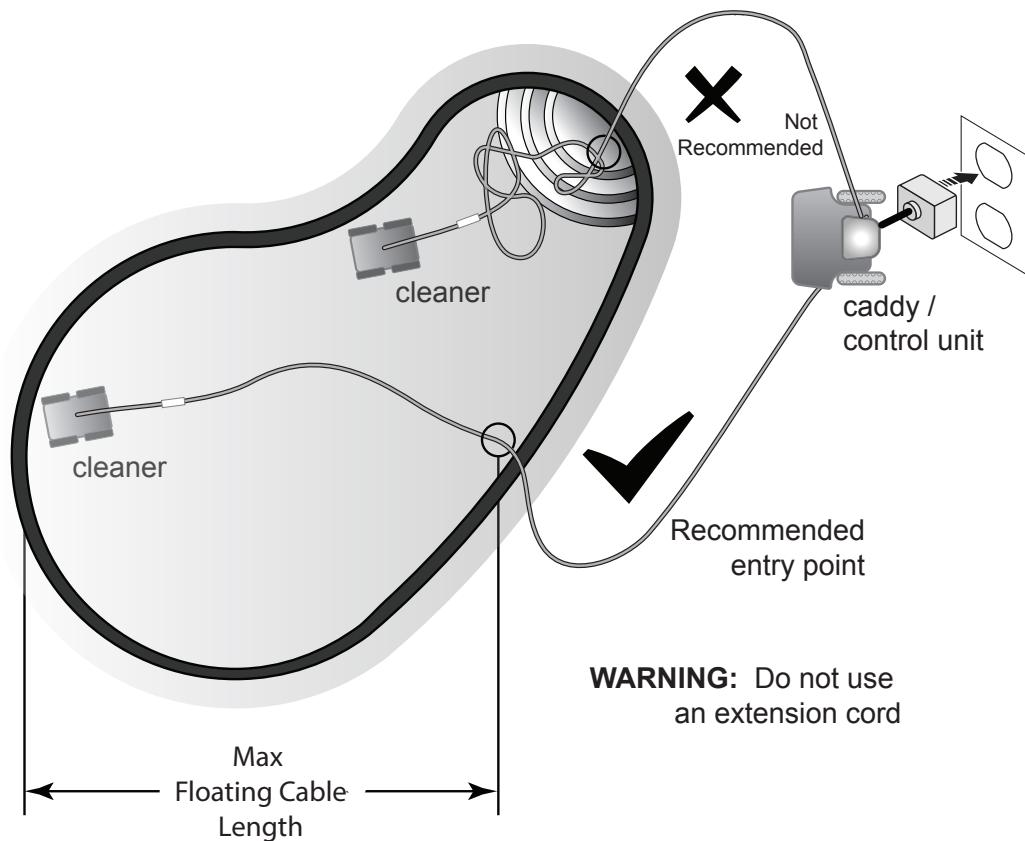

Figure 14. Pool Entry Point for Optimal Patterning
3. Place only enough floating cable in the water to reach the farthest end of your pool from the central point. Spread out the floating cable ensuring there are no kinks or coils in the cable (Figure 14).
NOTE: For optimal patterning and reduced tangling, the floating cable should enter the water near the middle of the pool length. Only place enough cable in the water to reach the farthest point in the pool (see Figure 14).